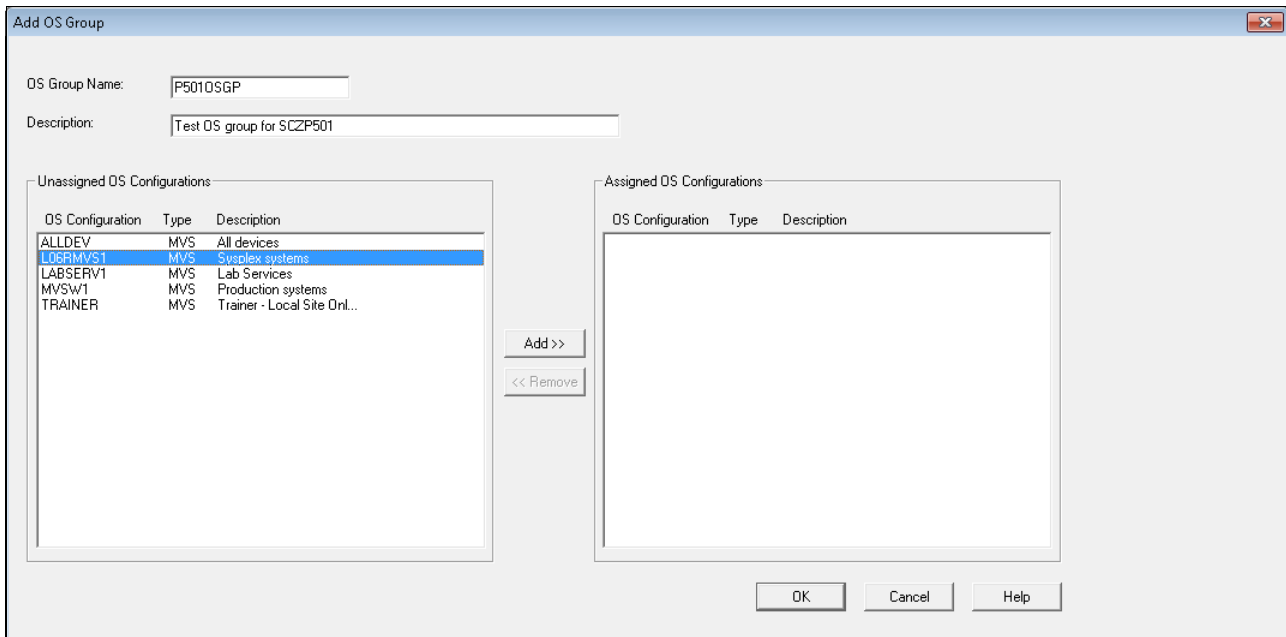

Figure 4-46 HCM - OS Groups: OS configuration list
2. In the example, enter an OS Group Name and Description and highlight the OS configuration that you want to add to your OS Group (Figure 4-46).